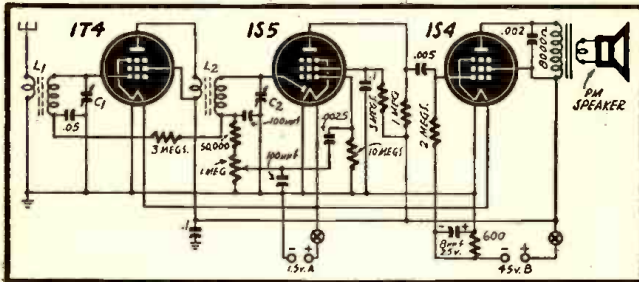

Fig. 1—Three-tube camera-type portable radio receiver.
**A.** The diagram (Fig. 1) shows a three tube T.R.F. receiver with one stage of R.F., a detector with audio amplifier, and a power amplifier stage to operate your 1½-inch PM speaker.